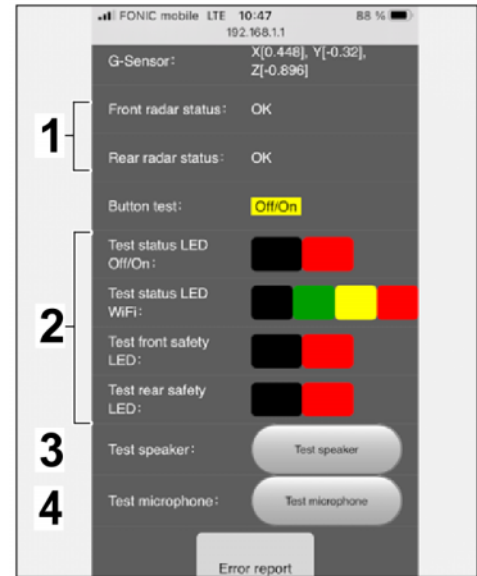

Figure 29
6.3 Display of radar status, possible tests for LED lights, loudspeaker and microphone (⇒ Figure 29)